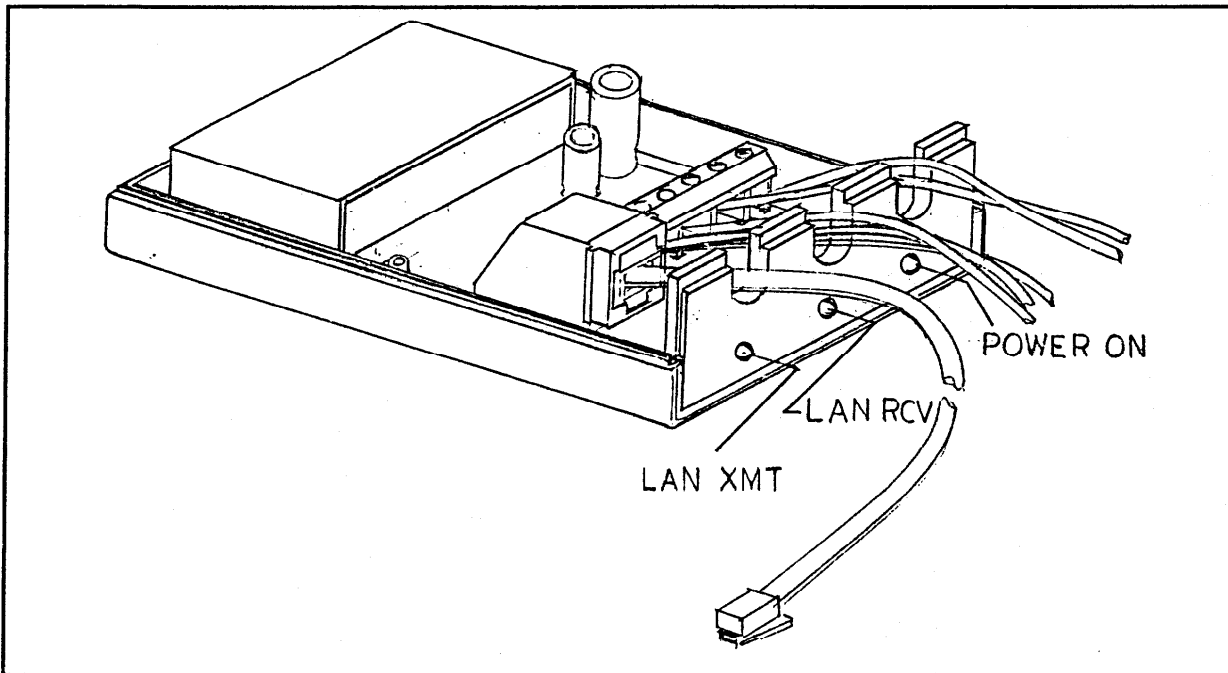

Fig. 3, LED Indicators
1. Remove the top cover from the M801X module to reveal the terminals as shown in figure 3.
There are 3 LED's on the module to indicate POWER ON, LAN RCV and LAN XMT status as shown in figure 3. When power is applied the POWER LED will be lit. If the module is receiving data from the LAN, the LAN RCV LED will flicker. This will occur even when OFF-LINE, as the M801X will see the Clippers sharing data. If the module is transmitting data, the LAN XMT LED will flicker. (Note: When the M801X is connected to a modem, the LAN RCV LED will correspond to the modem's SD LED, and the LAN XMT LED will correspond to the modem's RD LED.